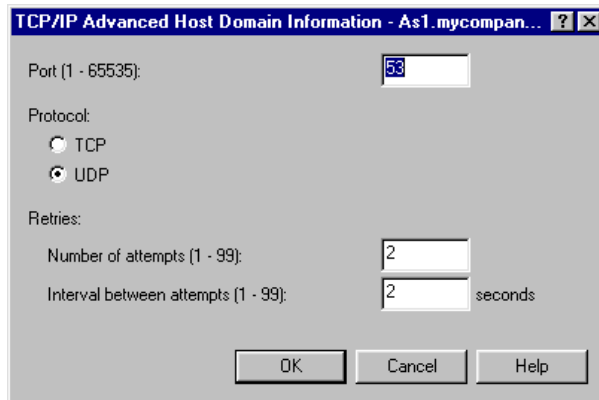

Figure 324. Advanced Host Domain Information settings
3. Click **Advanced** to set additional DNS values. The Advanced Host Domain Information window (Figure 324) appears. The default values shown work in most environments. If you have intermittent trouble resolving names to IP addresses, you may want to increase the number of attempts and the interval between attempts. If these values are set too high, you may experience a long wait time before an “unknown host” message is displayed.